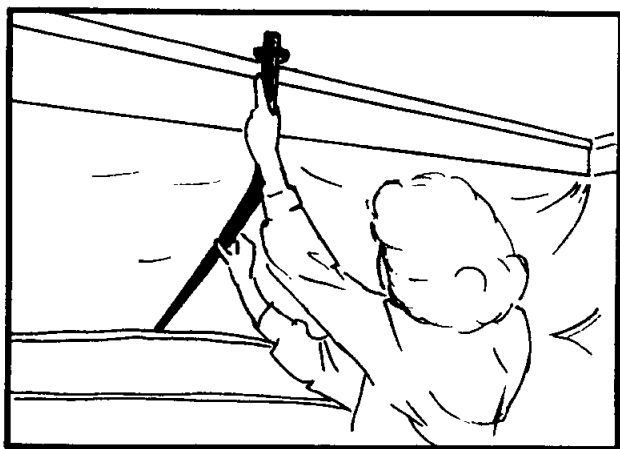

FIGURE 37
43. To complete and support the tent enclosure over the bed (front and rear), attach the bed bow support by inserting the straight end into the bed bow. Insert the rounded end of the bed bow support into the roof retainer. (See Figure 37.)
11. Detatch both front and rear bed bow supports from the roof retainer and from the bed bow. Lay the bed bow supports under each mattress. See Figure 37.